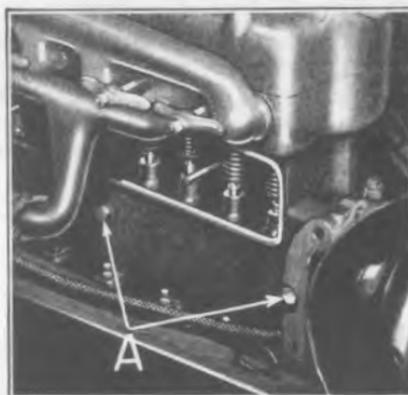

Fig. 280
- 474 Run out the two camshaft bearing set screws (See "A" Fig. 280).